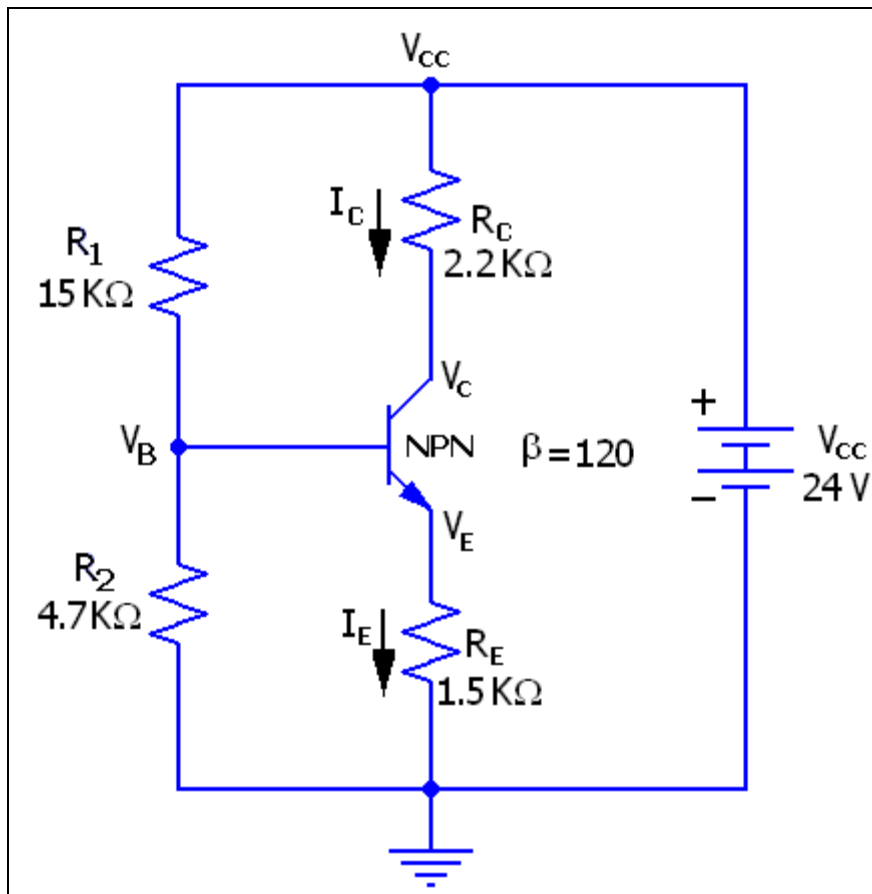

Fig. 3.2-13
2. For the voltage divider biasing circuit of Fig. 3.2-13. Determine each of the following: